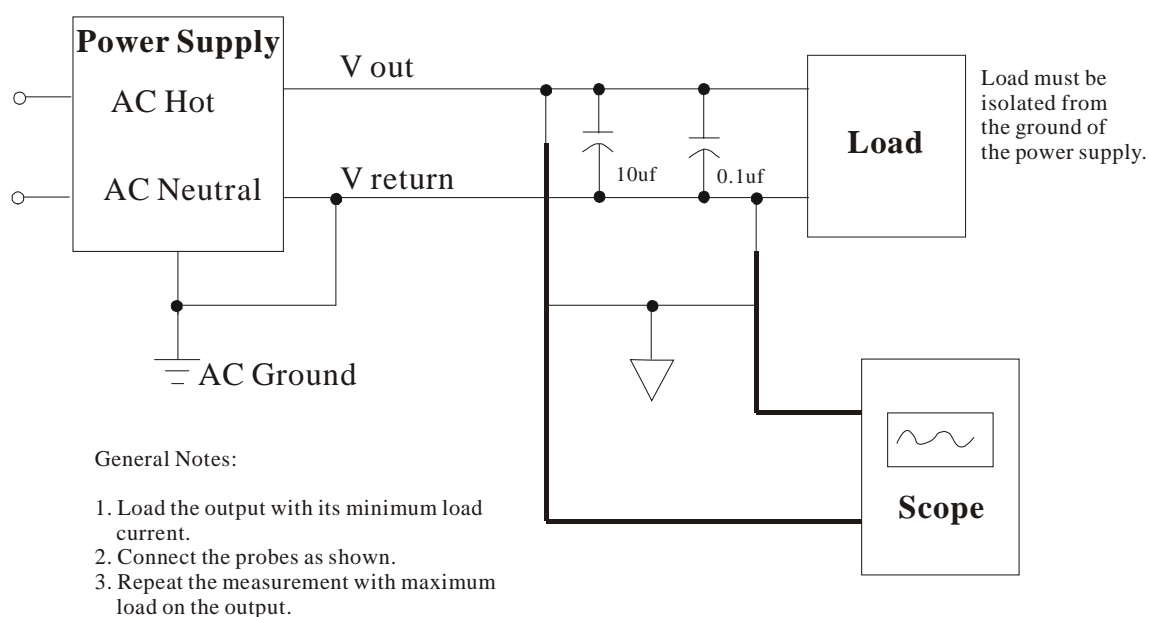

Figure 1. Differential Noise Test Setup
- Ripple and noise measurements shall be made under all specified load conditions through a single pole low pass filter with 20MHz cutoff frequency. A 0.1uF ceramic disk capacitors in parallel with a 10uF tantalum are placed at the point of measurement. See Figure 1.